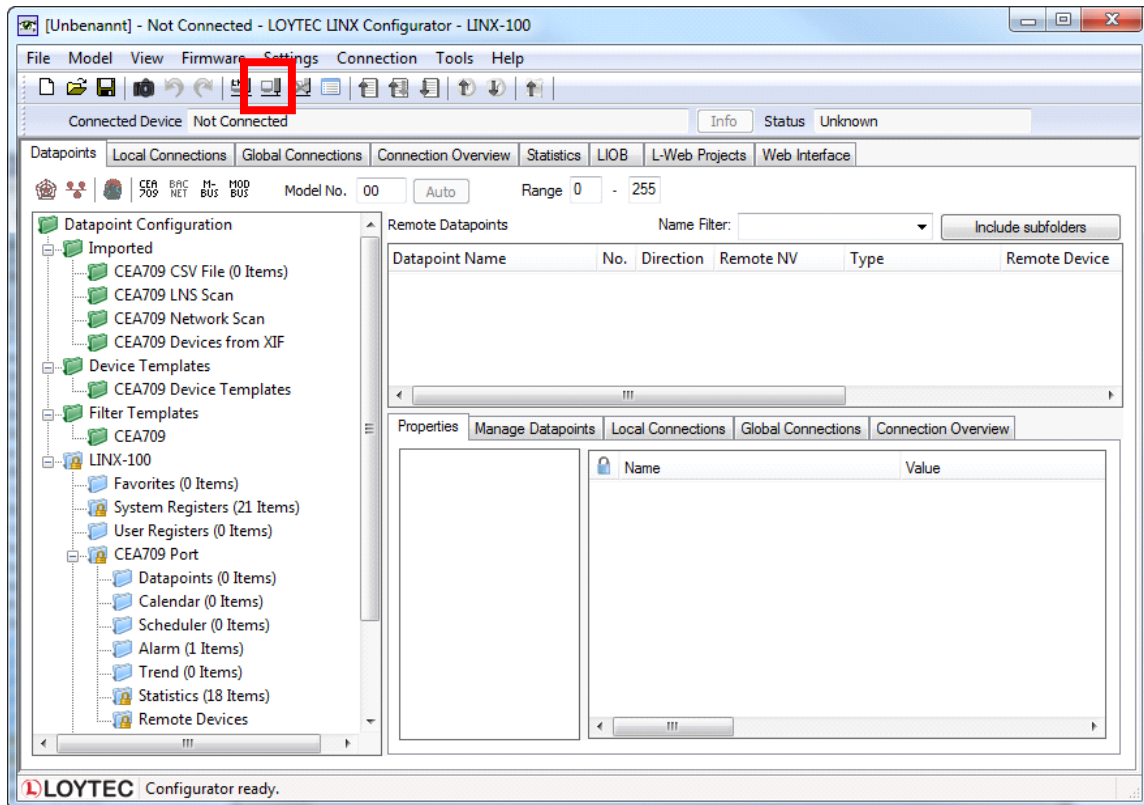

Figure 26: L-INX Configurator main screen.
1. Start the L-INX Configurator software by selecting Windows **Start → Programs → LOYTEC LINX Configurator → LOYTEC LINX Configurator**. The application starts up and displays the data point manager screen as shown in Figure 26.
2. When the device is online, connect to the device by clicking on the **Connect to device** speed button as indicated by the red rectangle in Figure 26.